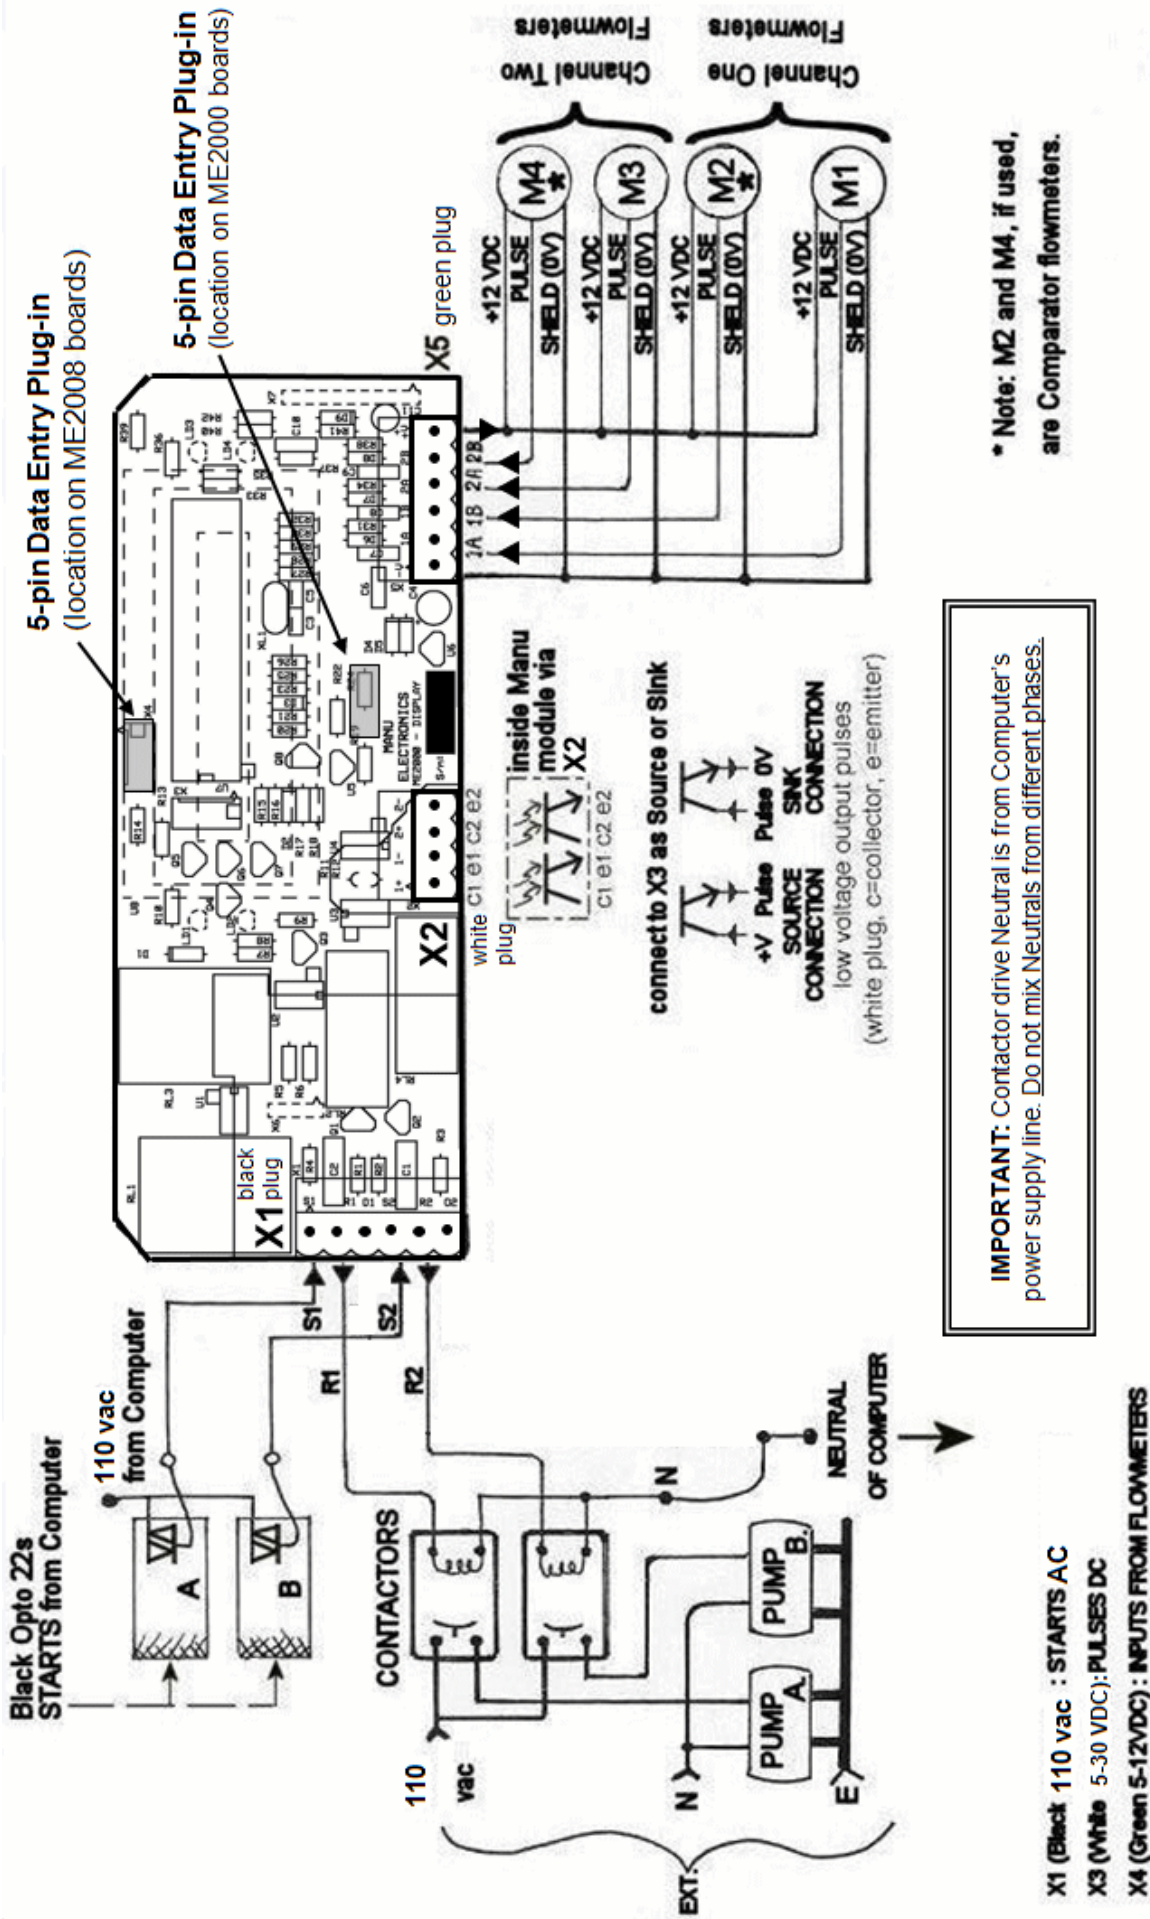

Figure 4. Dual Channel Module (DCM) wiring
- Figure 4. Dual Channel Module (DCM) wiring, on page 6.